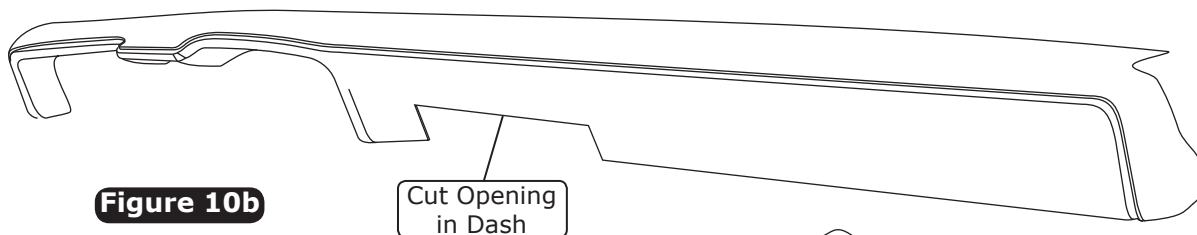

Figure 10b
3. Cut an opening into the dash as shown in Figure 10b, below.